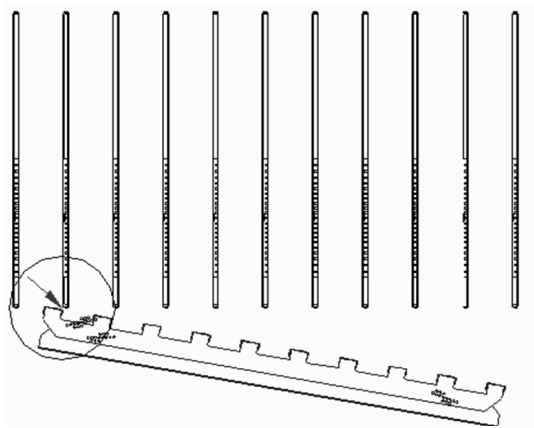

Figure 5.12 Top View
7. When the depth adjustment is complete, adjust the Upper Product Retainer left/right so that it just clears the stack wall (See **Fig. 5.12** on page ...) when you open and close the main door. It's easier to see from the t-handle side of the machine. Note: that this adjustment is important. If it's too far to the right, it will contact the stack wall. If it's too far to the left, it won't retain the product.